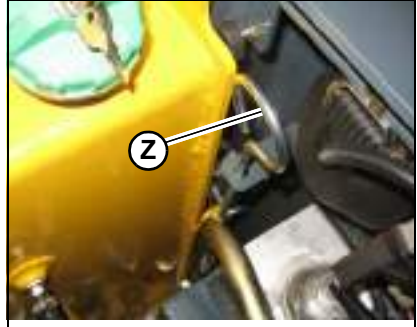

Figure 91 – Engine Compartment Access
1. Lift the engine cover and pull the rear door latch (Z, Figure 91) up.